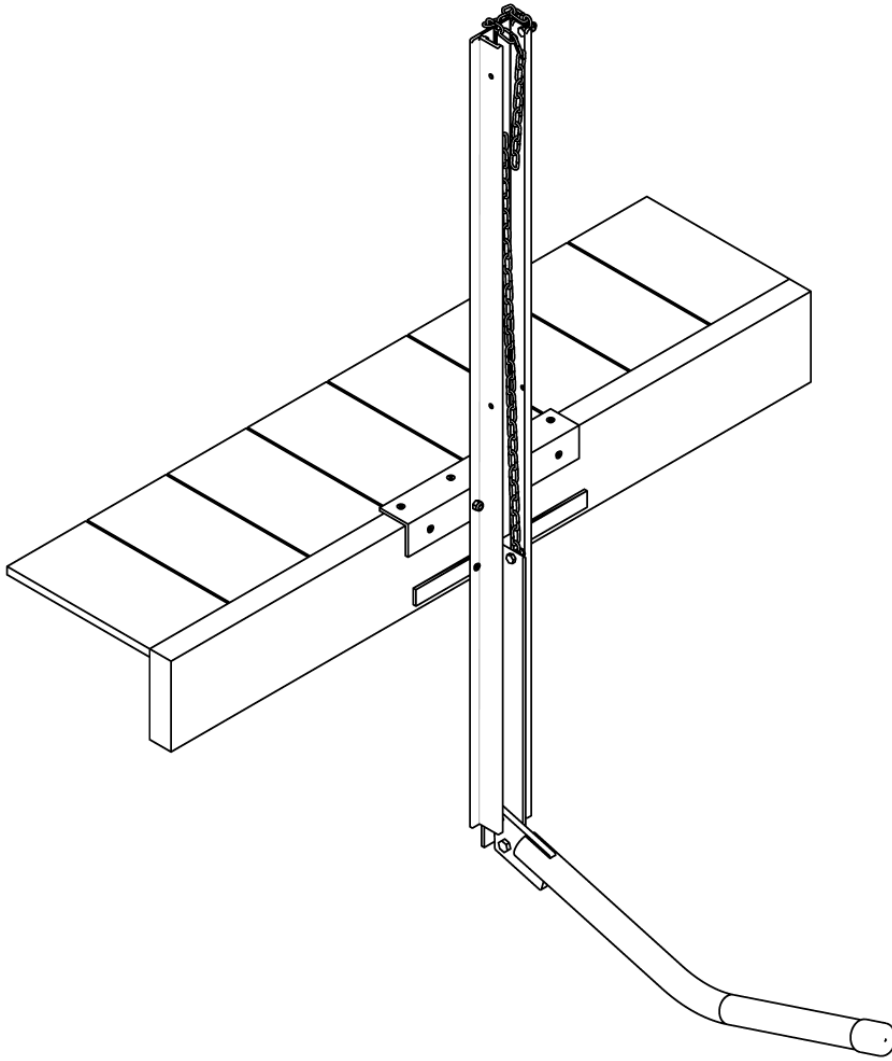

FIGURE 2
- Place the assembled KayaArm onto the edge of dock and fasten it to the dock using 4 deck screws (not provided) into the top surface of the angle (4). Fit the cedar shims into the approximately 1/4" space between the back of the mast and the vertical surface of the dock (see Figure 2) at a location directly behind the lower holes in the mast flanges. HINT: Push the tapered shims simultaneously one from each side of the mast and one in front of the other, into the space behind the mast to a distance where this space is filled when the mast is vertical. Install 2 deck screws (not provided) into the lower flange holes.